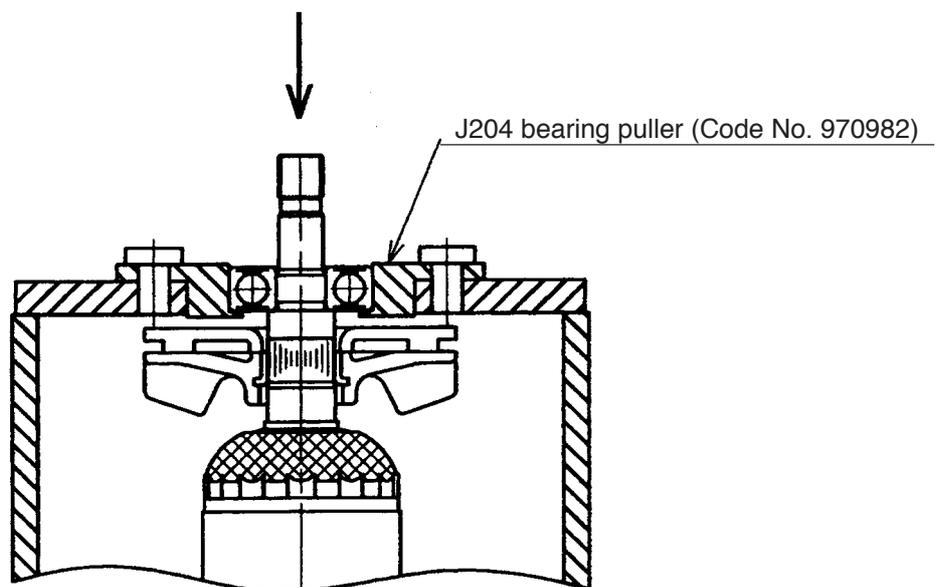

Fig. 5
(1) Disassembly of the armature (Fig. 5)
8. For the models indicated under Fig. 5, the Ball Bearing 629T12DDC3PS2-L **[9]** **<9>** can be removed from the Armature **[12]** **<12>** by utilizing a J-204 Bearing Puller (special repair tool, Code No. 970982) as illustrated. After the ball bearing has been removed, the Bearing Cover **[11]** **<11>** can be easily taken off.